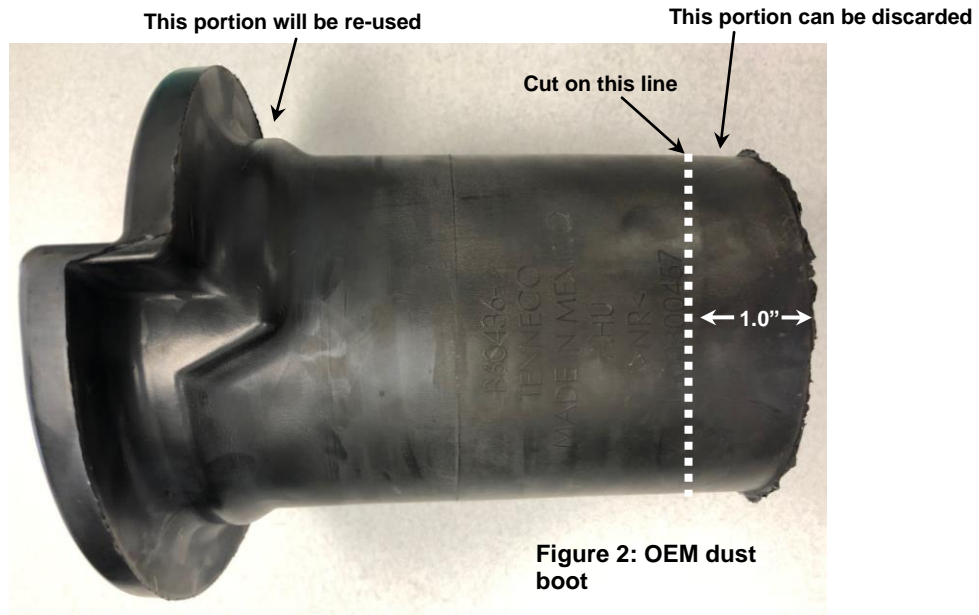

Figure 2: OEM dust boot
- E. Using scissors, cut the OEM dust boot on the dotted line shown below in Figure 2: